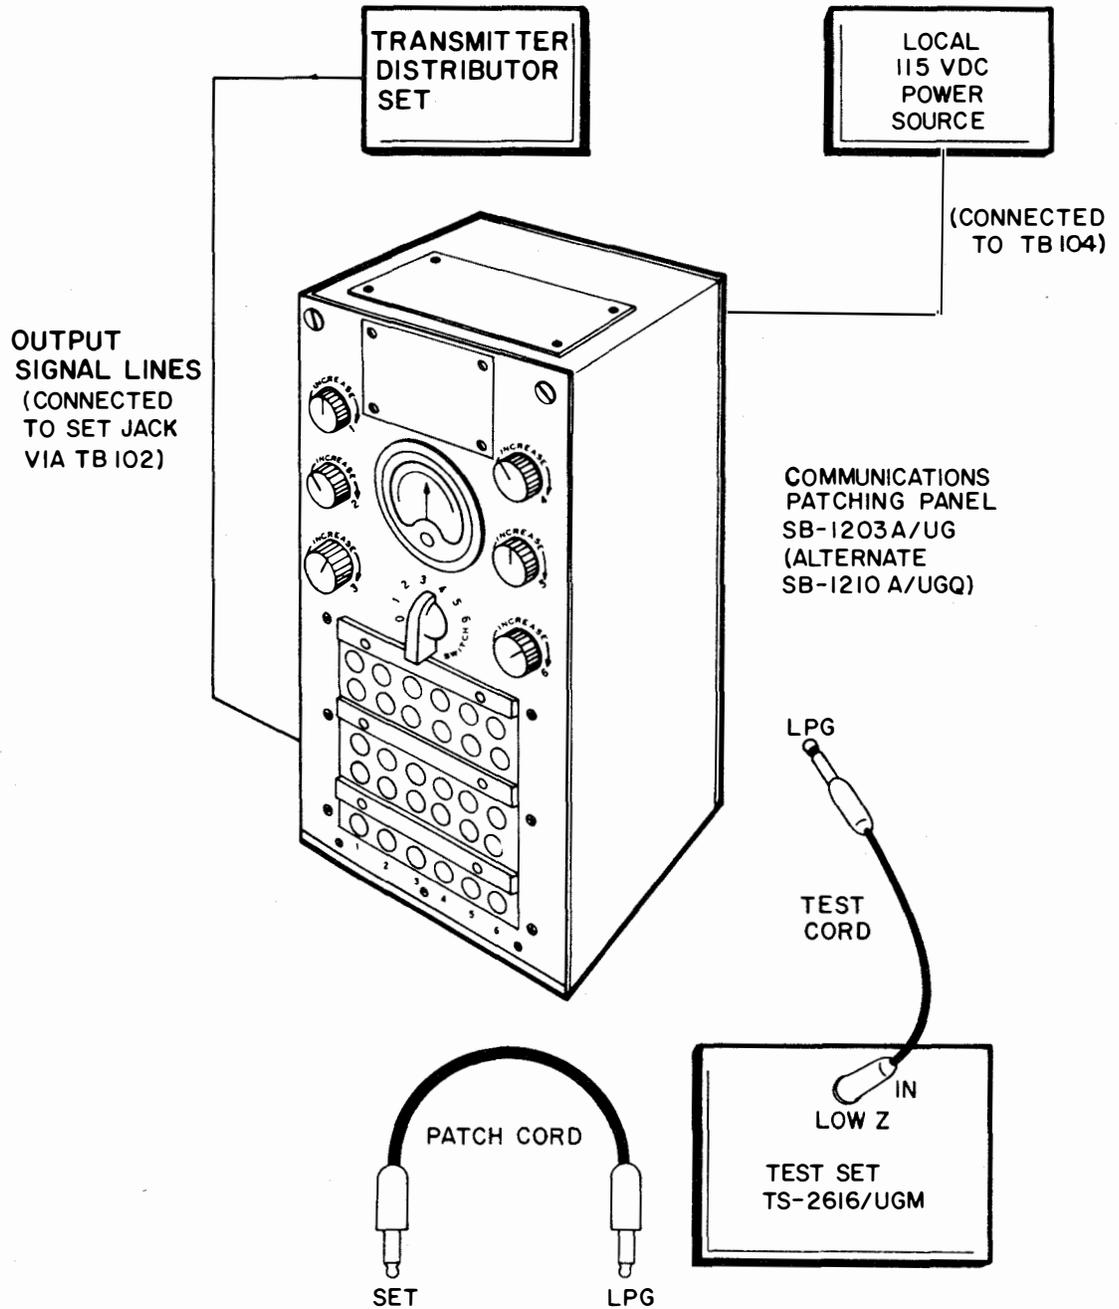

Figure 4-2. TD Test Setup (High-Level)
b. Operational Tests. Operational tests for high-level TD sets are discussed below in paragraph 4-8.b(1) and for low-level TD sets in paragraph 4-8.b(2).
(1) Operational Tests High-Level. Figure 4-2 shows test setup required to perform high-level TD test procedures described in table
4-5. If abnormal indications are encountered during a test, refer to Troubleshooting Index, table 5-1, in Chapter 5. Prior to conducting the tests, perform the following initial control settings on the TS-2616/UGM test set shown in figure 4-2.
1.	<p>Preliminary.</p> <p>a. Ensure TS-2616/UGM test set controls are set as indicated in paragraph 4-8.b(1).</p> <p>b. Ensure main power switch on TD is set to off (down) position.</p> <p>c. Refer to figure 4-2.</p> <p>d. Ensure TD and local 115 vdc power source are correctly connected to patching panel. (Refer to NAVSHIPS 0967-874-1010, formerly NAVSHIPS 95718.)</p> <p>e. Plug TD, test set, and local 115 vdc power source power cords into 115 vac outlets.</p> <p>f. Set power switches on test set and local 115 vdc power source to on position.</p>